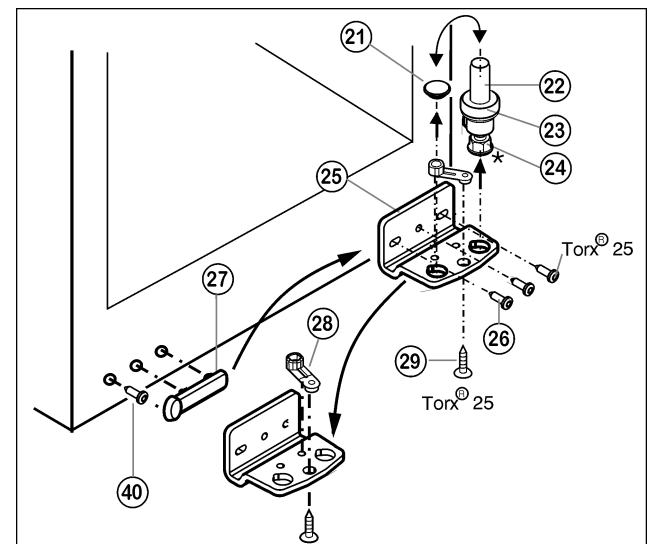

Fig. 5
- ▶ Lift out the bearing pin Fig. 5 (22) together with washer Fig. 5 (23) and adjustable-height foot* Fig. 5 (24).
- ▶ Lift off the stopper Fig. 5 (21).
- ▶ Unscrew Fig. 5 (26) the turn hinge Fig. 5 (25).
- ▶ Unscrew Fig. 5 (29) the bearing element Fig. 5 (28), transfer it to the opposite location hole of the turn hinge and screw it firmly into place.
- ▶ Carefully lift off the cover on the handle side *Fig. 5 (27)*, undo the screw *Fig. 5 (40)* and transfer both to the opposite side.
- ▶ Screw the turn hinge *Fig. 5 (25)* firmly into place on the new hinge side, possibly using a cordless screwdriver (**with 4 Nm**).
- ▶ Re-insert the stopper *Fig. 5 (21)* into the other hole.
- ▶ Re-insert the bearing pin *Fig. 5 (22)* together with the washer and adjustable-height foot*. In so doing, pay attention that the locating lug points backwards
- ▶ Lift the stopper (33) out of the door bearing bush and transfer it.
- ▶ Dismantle the door handle (32), stoppers (33) and pressure plates* (34) and transfer to the opposite side.
- ▶ Place the door from above onto the lower bearing pin *Fig. 5 (22)*.
- ▶ Insert the upper turn hinge (12) in the door on the new hinge side.
- ▶ Screw the upper turn hinge (12) **firmly** into place (**with 4 Nm**)(2x Torx® 25) (13). Possibly make preliminary holes with a bradawl or use a cordless screwdriver.
- ▶ Snap the cover (10) and cover (11) into place at the opposite side.
- ▶ Align the door to the appliance housing by way of the two oblong holes in the bottom turn hinge *Fig. 5 (25)*. To do so, unscrew the middle screw.